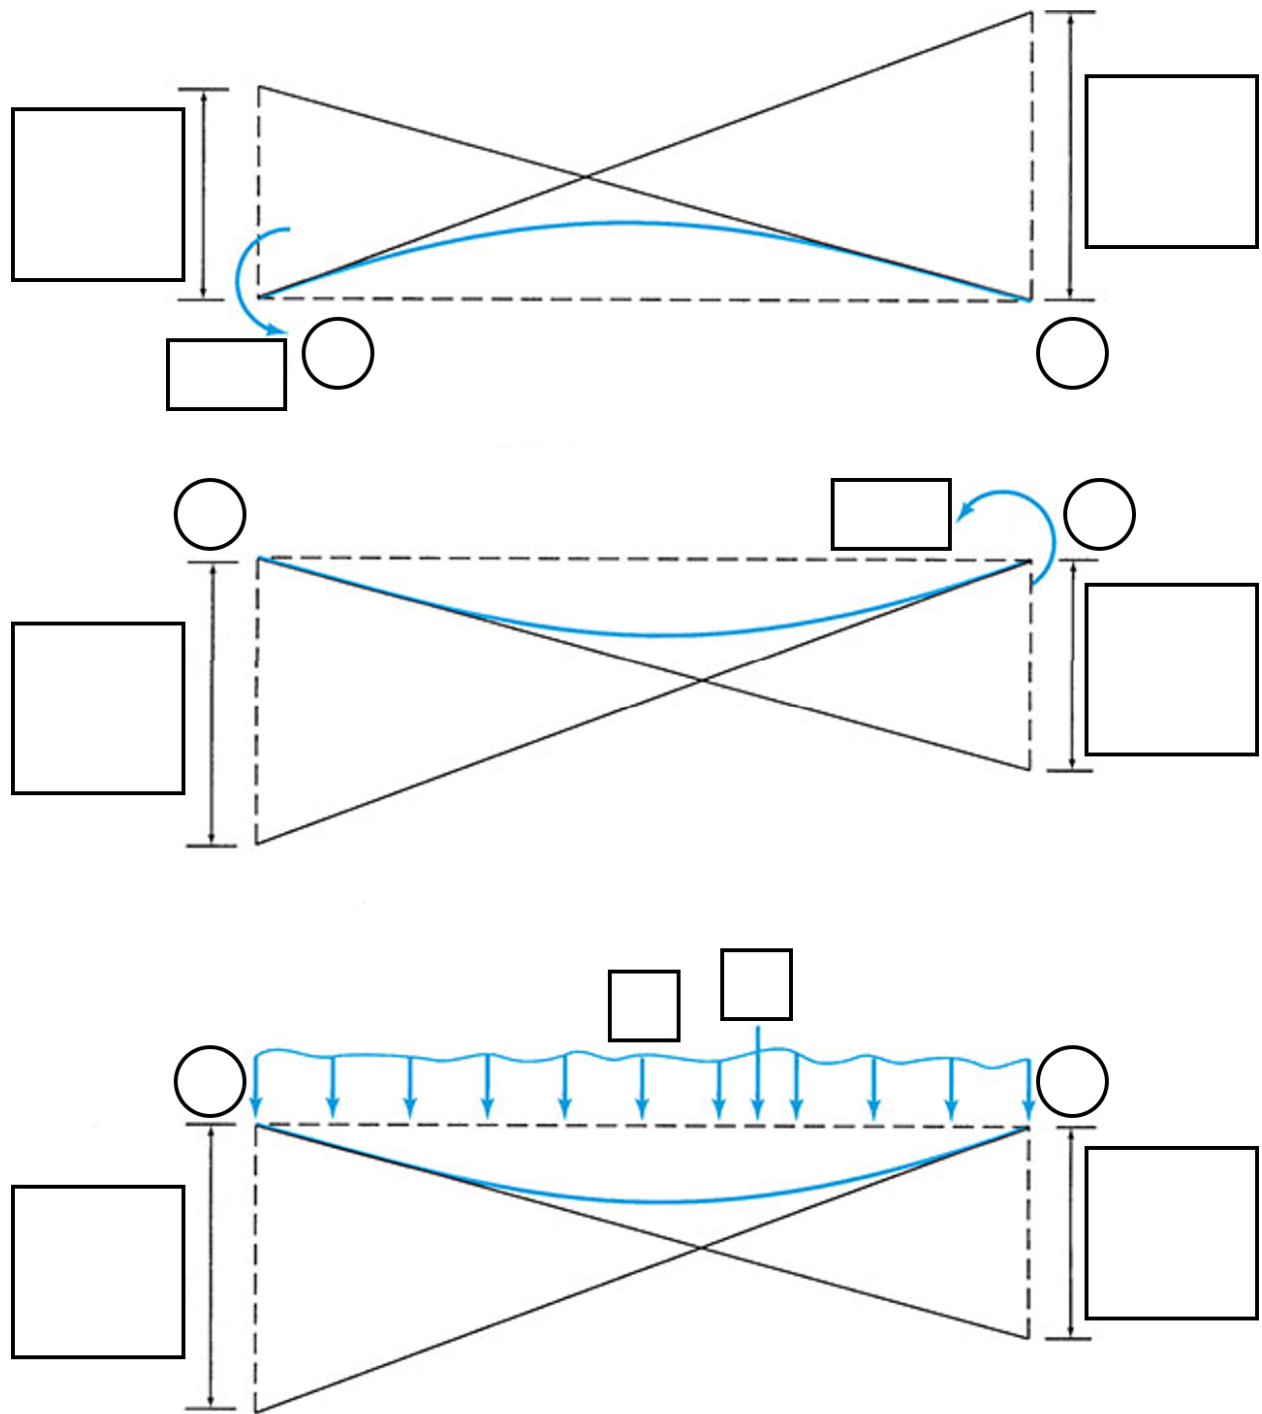

Figure 4. Tangential deviations for various moments.
- a. Note the required tangential deviations are illustrated in Figure 4.
- 9) In Figure 4, _____ and _____ denote moments about the ends _____ and _____, respectively, of the area under the simple beam bending moment diagram.
- 2) Note the tangential deviations due to _____, _____, and _____ are indicated on Figure 4.